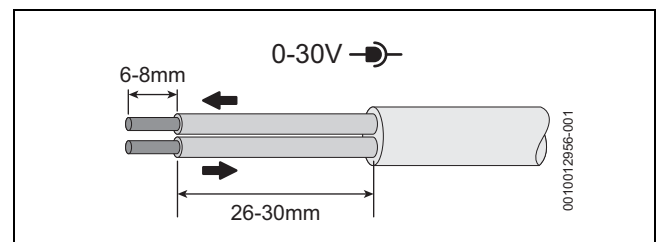

Fig. 64 Low voltage (signal cables) preparation
**Low voltage (signal cables), example → figure 64**